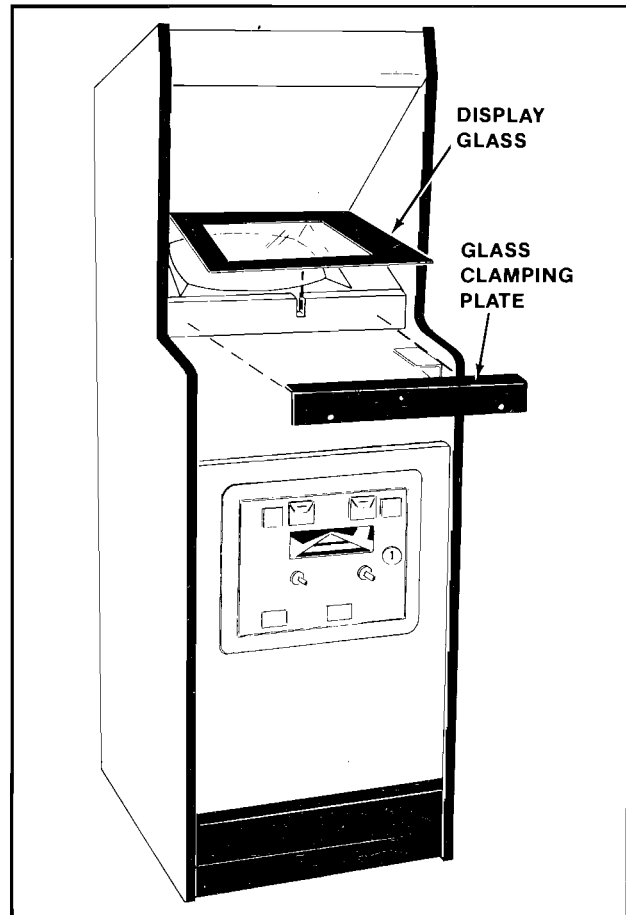

Figure 4-6 Removing the Main Display Glass & T.V. Bezel — Mini
- Remove the screws which secure the glass clamping plate. See Figure 4-6.
- By putting your finger in the hole in the middle of the main-display-glass support, you can lift it up and out. See Figure 4-6.